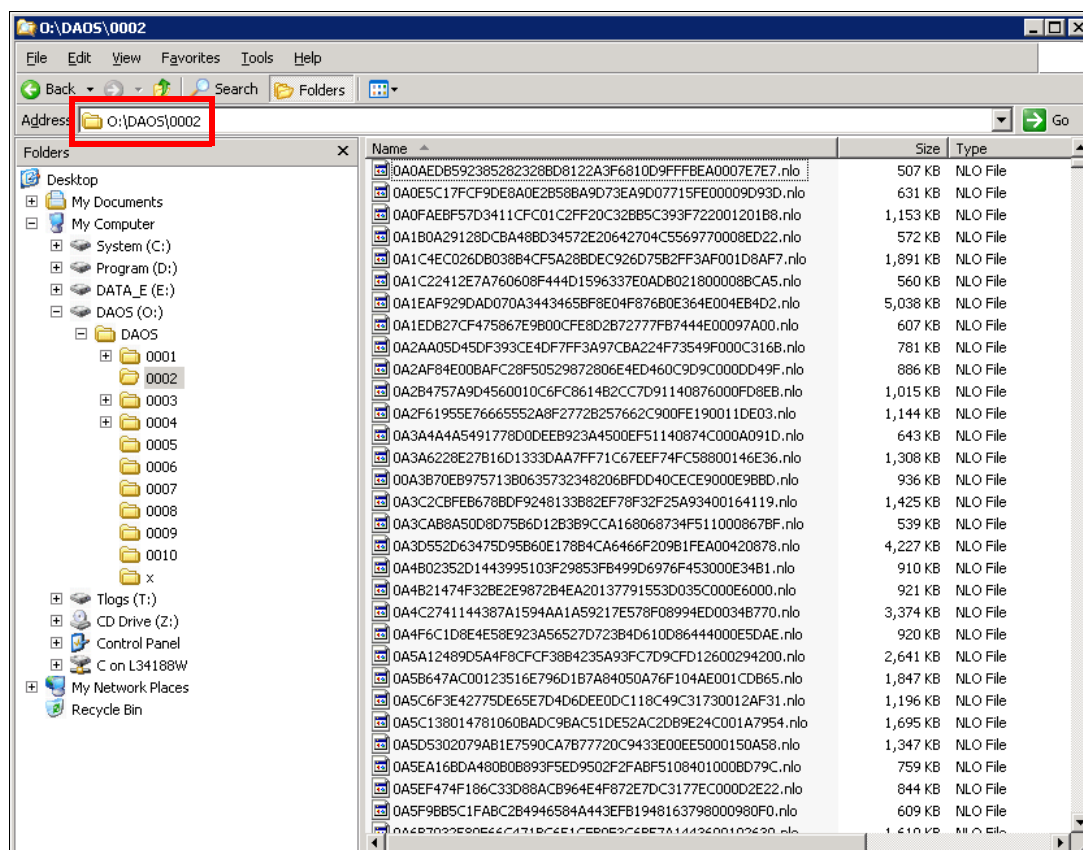

Figure 20-2 The folder structure of DAOS attachments
- ▶ Figure 20-2 on page 299 shows the folder structure of DAOS attachments.
Figure 20-2 shows another example of a dedicated storage repository for NSF and NLO objects.